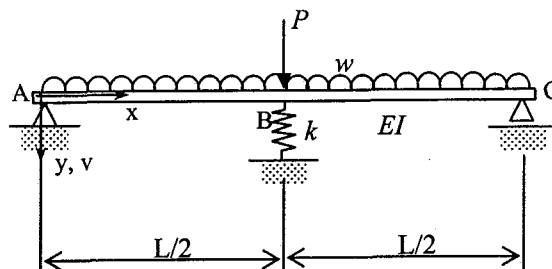

Figure 4
- (b) Figure 4 shows a simply supported beam with an elastic spring prop at point B. The beam is subjected to a point load P acting at the mid-span and a uniformly distributed load w . The following expression for lateral displacement field v has been suggested: